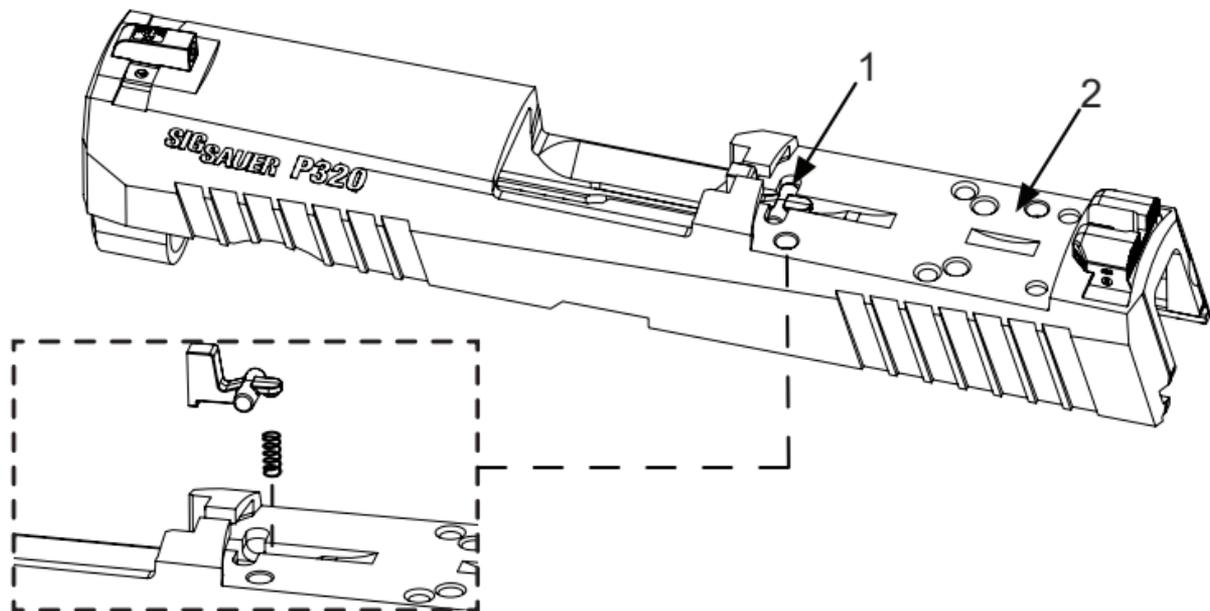

Figure 8. Inspect Slide
8. Ensure loaded chamber indicator (LCI) (Figure 8, Item 1) is properly installed in slide. Clean sight mounting surface of slide (Figure 8, Item 2).